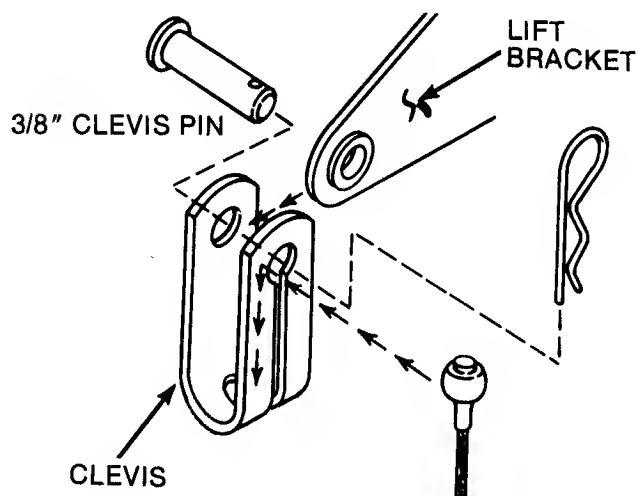

FIG. 26 - FRONT LIFT BRACKET
4. Pull front lift arms up into position between the implement attaching brackets on back of front axle and secure at each side with a large clevis pin and large hairpin. Refer to FIG. 26.